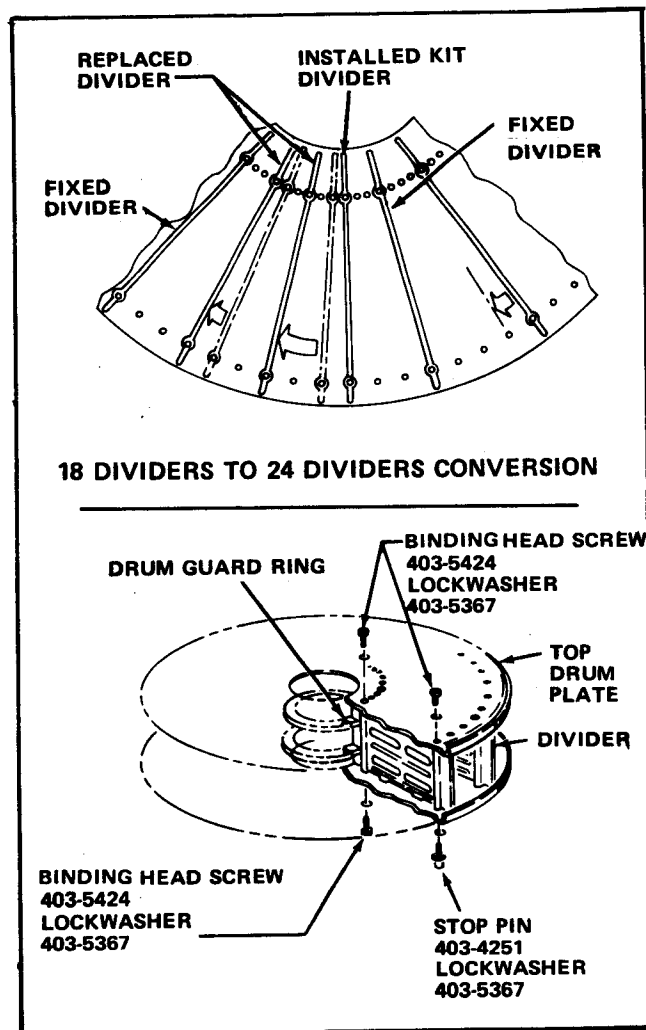

FIGURE 4
- K. If the Drum is being converted from a 18 Divider to a 24 Divider Drum, move the detached Divider one hole to the left. There should be a fixed Divider 2 unused holes and the replacement Divider. See Figure 4. Be sure the Drum Guard Ring(s) is in the Slot(s) in the inner edge of the Divider.